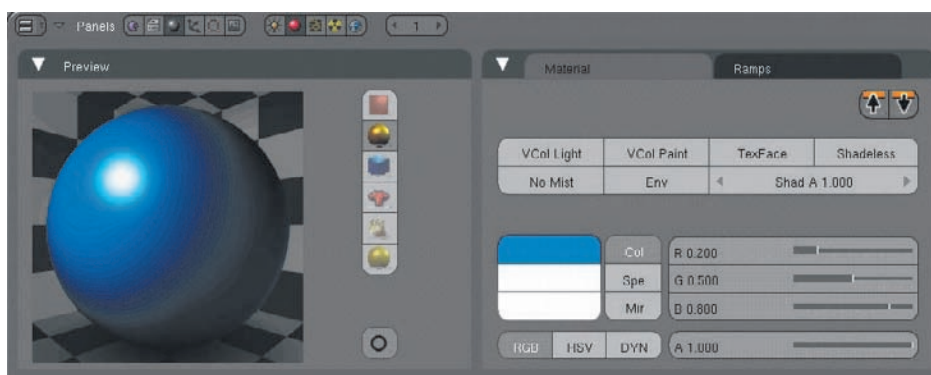
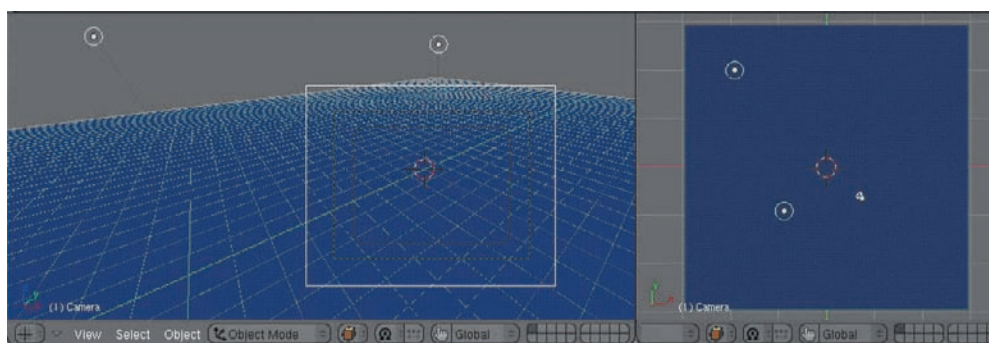

Figure 1.31 A base material for the water
Figure 1.32 Camera and lights setup
2. Give the plane a material, as in Figure 1.31. Choose a base color for the water similar to the one shown, and increase the specularity slightly from the default. Set up your lights and camera along the lines shown in Figure 1.32. The camera view should be filled by the water surface. I have one lamp placed off to the left of the camera and one placed over the far corner of the plane in front of the camera. Place your lamps in similar positions. Turn off shadows for the lamps.